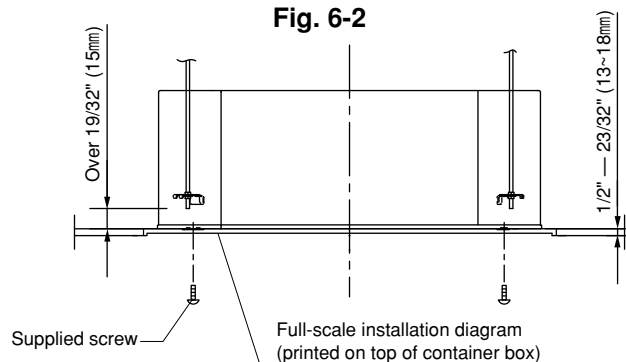

Fig. 6-3
(1) Be sure to remove the fan protection (4pcs) for transportation before hanging up the indoor unit.
(2) When placing the unit inside the ceiling, determine the pitch of the suspension bolts using the supplied full-scale installation diagram. (Fig. 6-3)
(3) The length of suspension bolts must be appropriate for a distance between the bottom of the bolt and the bottom of the unit of more than 19/32" (15 mm) as shown in the diagram. (Fig. 6-3)